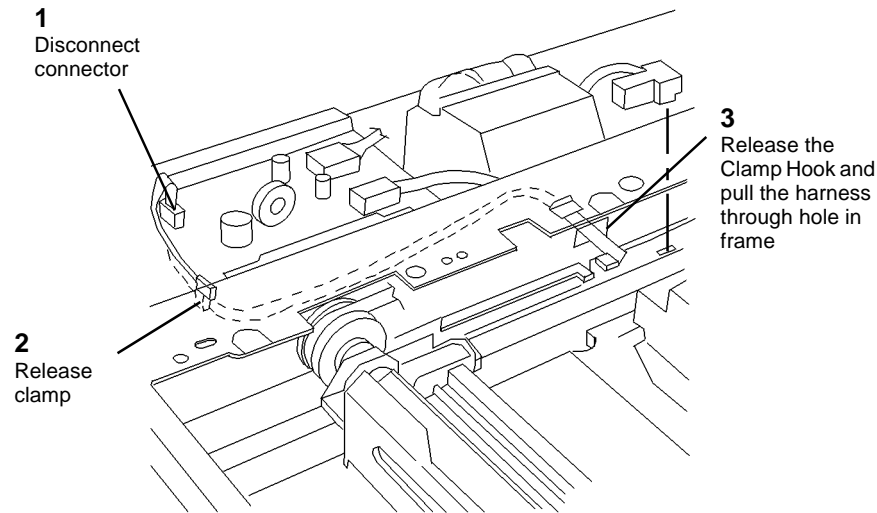

Figure 1 Disconnecting Lamp Wire Harness
4. Disconnect Lamp Wire Harness connector and release Clamp Hook (Figure 1).